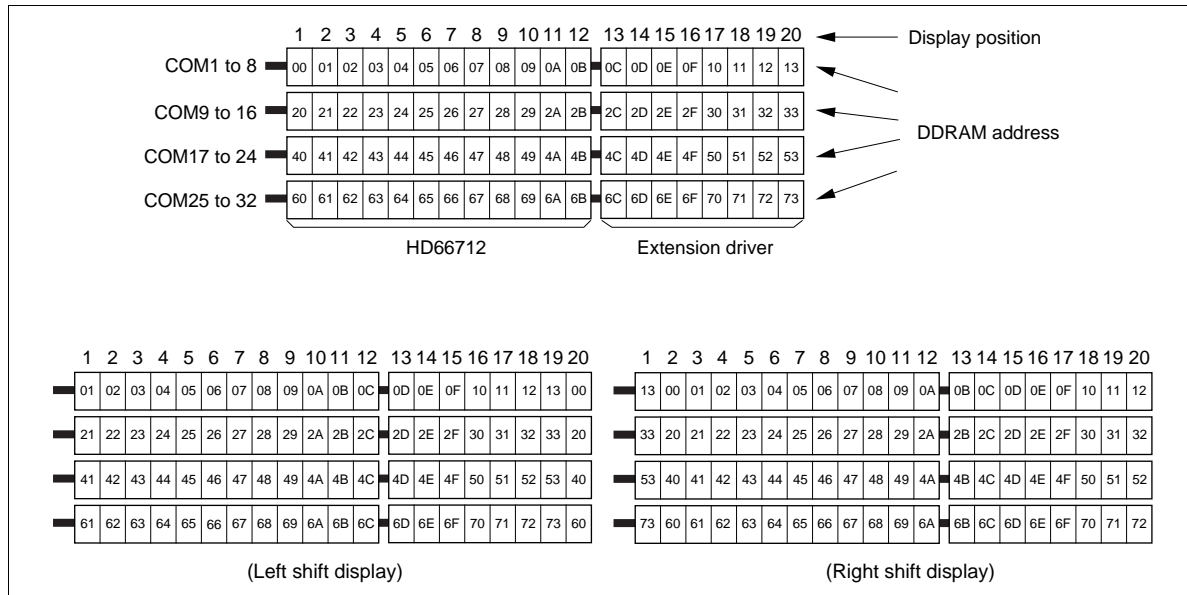

Figure 9 4-Line by 20-Character Display
- Case 2: Figure 9 shows the case where the EXT pin is fixed high and the HD66712 and the 40-output extension driver are used to extend the number of display characters.